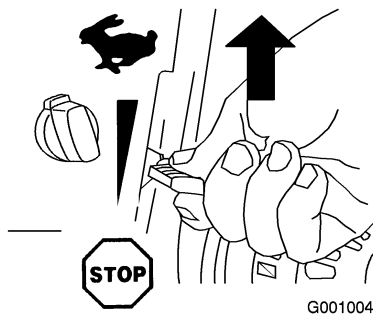

Figure 19
2. Move the throttle to the Fast position (Figure 19).